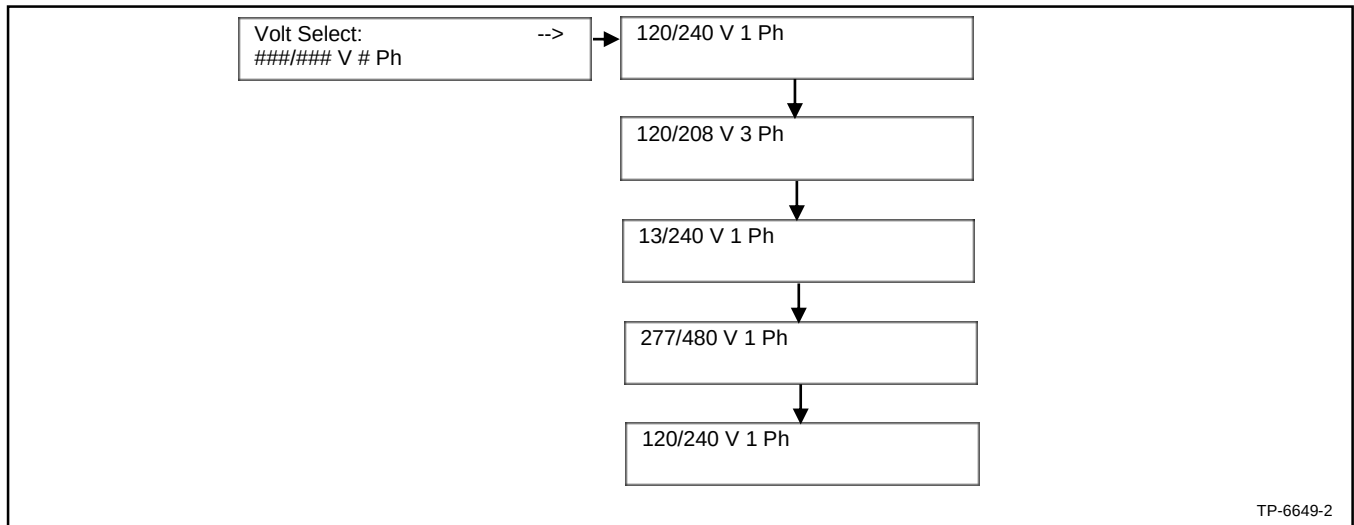

Figure 53 Volt Select Menu
1. Turn the controller pushbutton/rotary selector dial until it stops at the Volt Select menu. See Figure 53